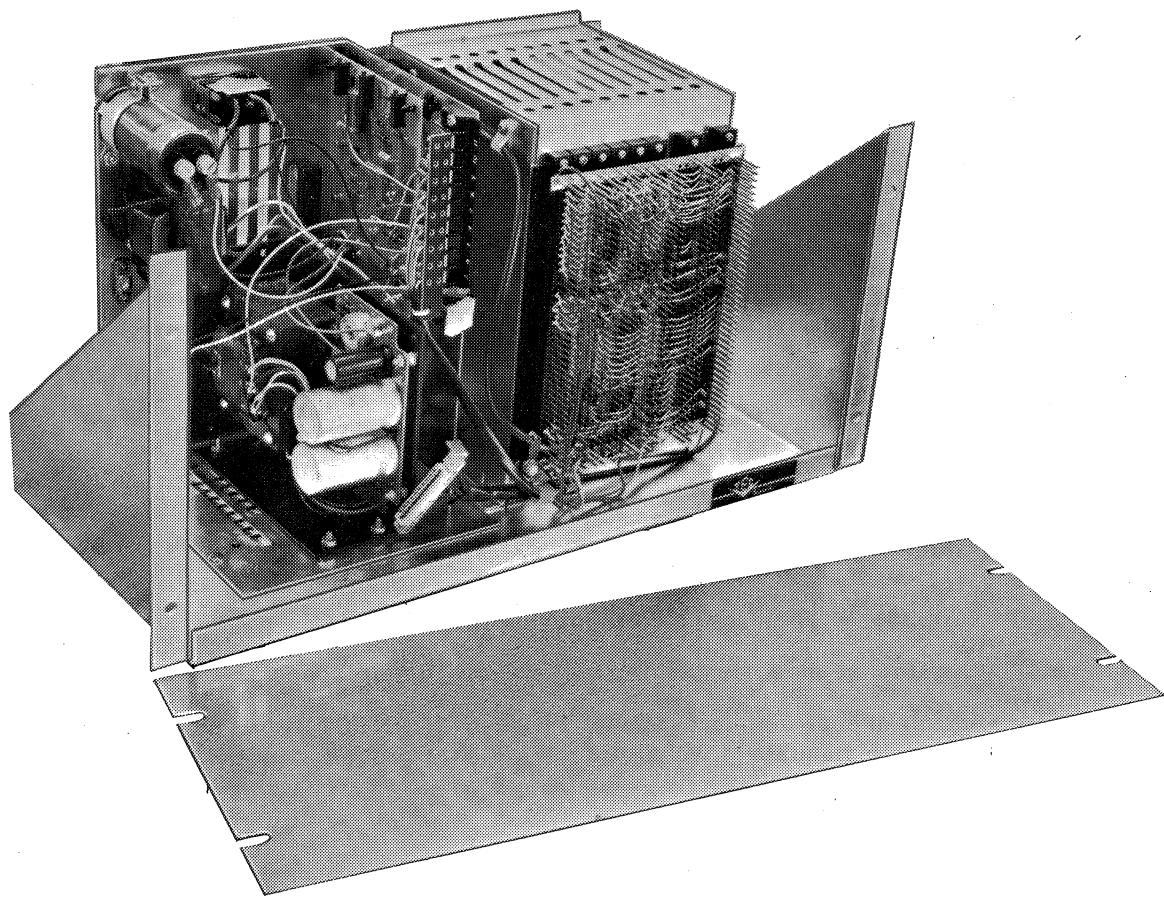

FIGURE 4 RACK MOUNT MODEL WITHOUT MONITOR
- d. Rack mount (for standard 19-inch rack) for use with 10-1/2" high front panel. Accommodates logic and power supplies only. Designed for use with remote monitors. See Figures 4 and 31.